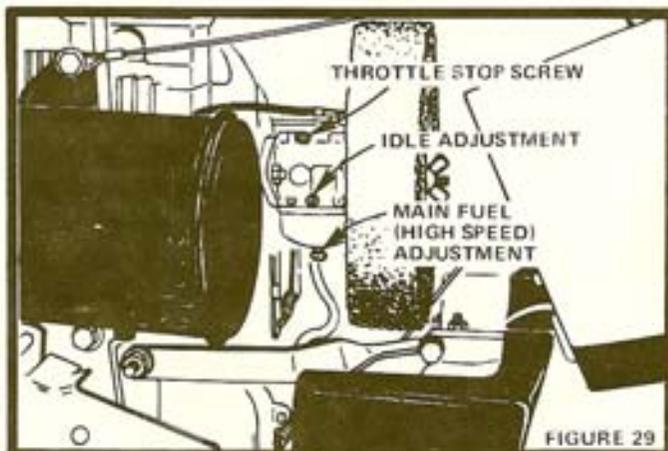

FIGURE 29
- Main Fuel (High Speed) Screw (Fig. 29) should not require adjustment. If resetting is necessary, turn clockwise, closing finger tight ONLY, then turn counterclockwise 1 - 1/8 turn.
- Turn Idle Adjusting Needle (Fig. 29) clockwise, closing finger tight ONLY, and then turn counterclockwise two turns.
- Throttle Stop Screw (Fig. 29) should not require adjustment. If resetting is necessary, set to obtain the slowest engine speed that will allow smooth acceleration.